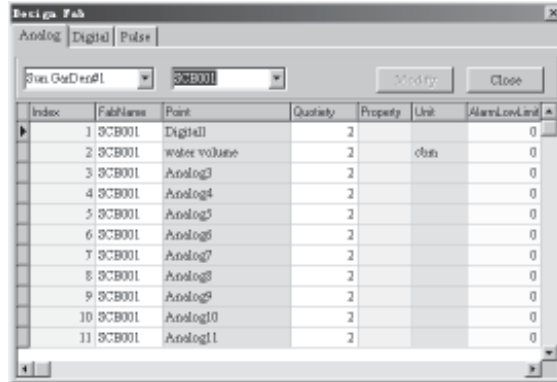

Fig. 4-11 Defining the FAB I/O Ports
Step 2. Click the **name of the station** to be controlled and the **name of the port** to be detected, the resources, signals and corresponding message of the FABs at the station will be displayed automatically. For example, in Interface 4-10, click Station Name **Sun Garden #1** and FAB Name **SGB001** the interface as in Fig. 4-11 will be displayed.